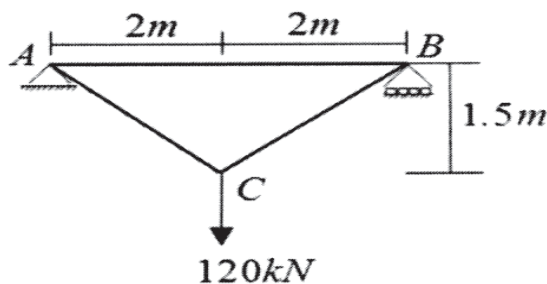

Fig. 3
- Q6) Analyze the truss as shown in figure 3. Cross-sectional area of members are $AB = 1000 \text{ mm}^2$, $BC = 800 \text{ mm}^2$, $CA = 800 \text{ mm}^2$. Take $E = 2 \times 10^5 \text{ MPa}$. [18]